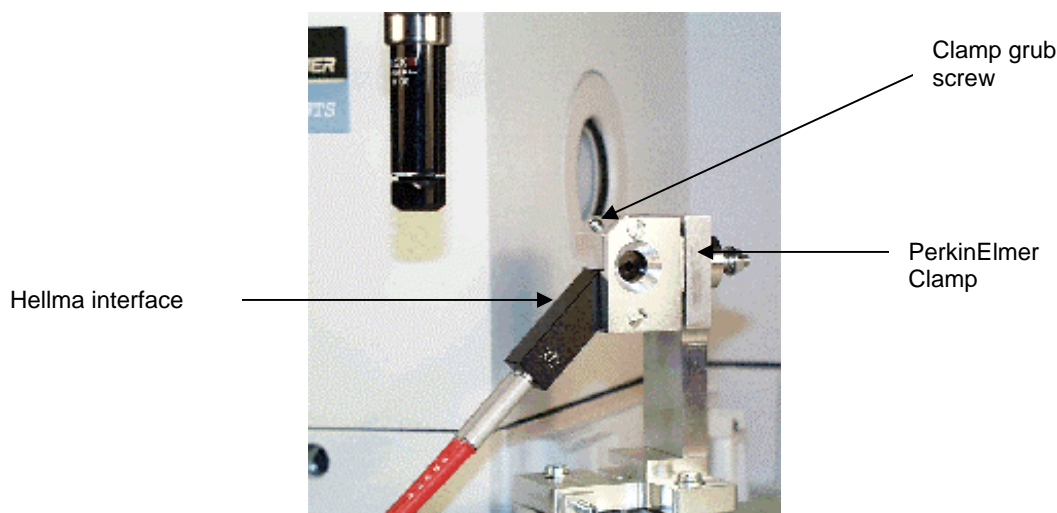

Figure 1 Hellma interface fitted into the PerkinElmer clamp
2. Fit the Hellma interface into the PerkinElmer clamp, taking care not to stress the fibers. The interface is held into the clamp at a angle of approximately 45 degrees, as shown in Figure 1.